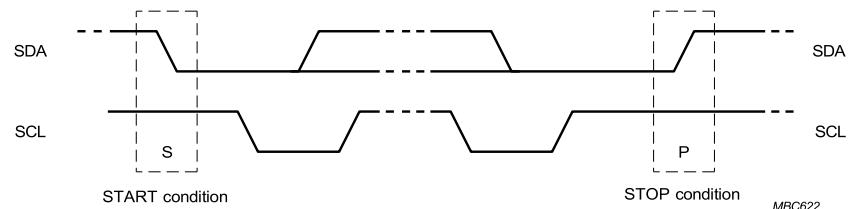

Fig 7. START and STOP conditions on the I²C-bus.
Both data and clock lines remain HIGH when the bus is not busy. A HIGH-to-LOW transition of the data line, while the clock is HIGH is defined as the start condition (S). A LOW-to-HIGH transition of the data line while the clock is HIGH is defined as the stop condition (P); see Figure 7.